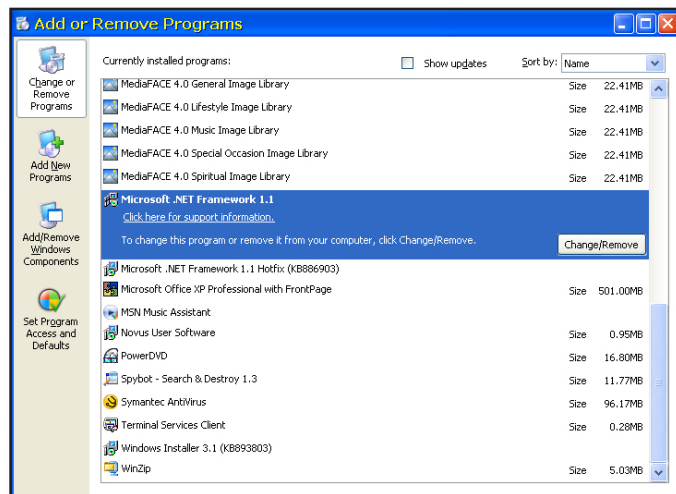

Figure 7.18 – Add or Remove Programs Window
5. When the window shown in Figure 7.18 appears, scroll through the list of applications. If you see Microsoft .NET Framework listed, the Framework is already installed and you can install the Novus User Software. If you don't see it listed, you **MUST** install it from the Microsoft Windows update web site before installing the software.